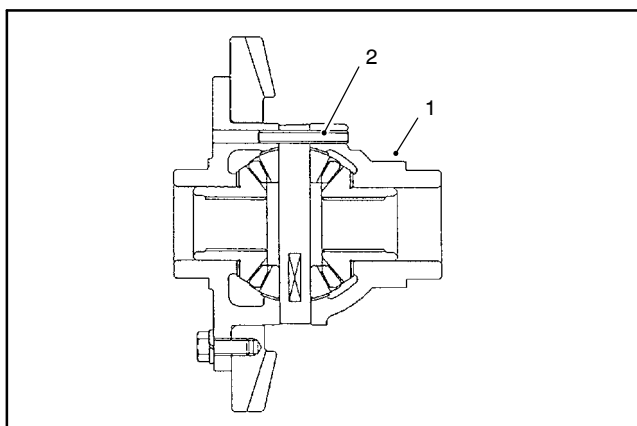

Figure 31
6. Drive the spring pin from the differential case with a punch and hammer. Discard the spring pin (Fig. 31).